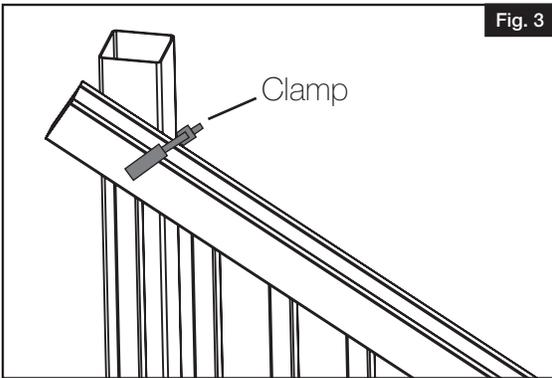

Fig. 3
- a. Place assembled stair railing section adjacent to mounted stair posts, leaving equal distances from the ends of both balusters and clamp your stair railing section to the posts (Fig. 3).